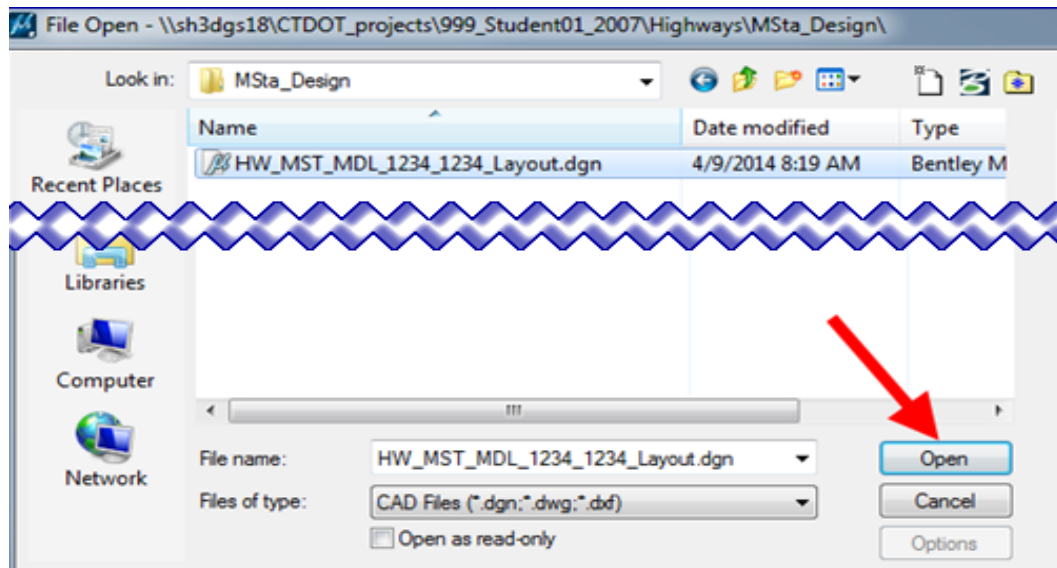

**Figure 11 - Select Design Seed File**
4. Select the correct seed file (Figure 11), browse to: